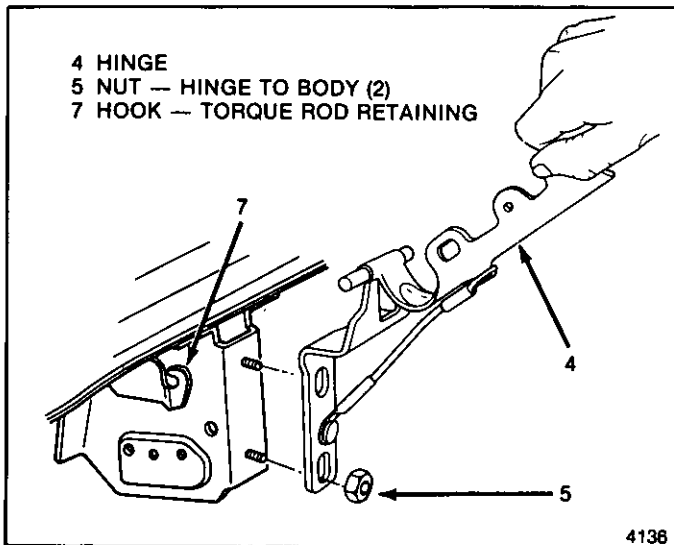

Fig. 2-Rear Compartment Lid Hinge
Remove or Disconnect (Figure 2)
Install or Connect (Figure 2)
1. Hinge (4, Fig. 2)
2. Screw (13)
3. Pin (9) – with end of torque rod resting against plywood, grasp U end of rod (8) and pull rearward to release pin.
1. Rod (3)
2. Rod (3) in hook (7)
3. Pin (9)
- With torque rod resting against plywood, grasp U end of rod (8) and pull rearward to insert pin.
- Release U end (8) of rod and be sure that end of rod hooks over pin.
4. Screw (13)
5. Hinge (4, Fig. 2)